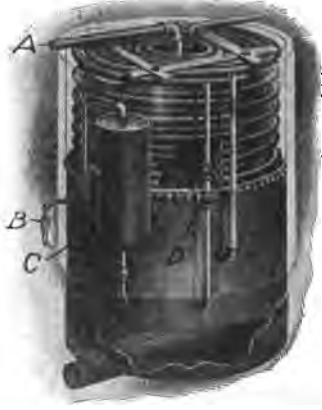

Fig. 43. Lane Boiler
**Special Types. Lane.** The Lane boiler, Fig. 43, was a combination of the fire-tube and flash systems. The main part of the boiler was of the fire-tube type, with very large tubes. Above this were several coils of brass tubing, the water entering the top and getting hotter as it passed down the tubes until it was partly converted into steam by the time it passed into the main part. The water was here separated from the steam, falling to the bottom of the boiler, while the steam was superheated by coming in contact with the hot upper portion of the fire tubes.